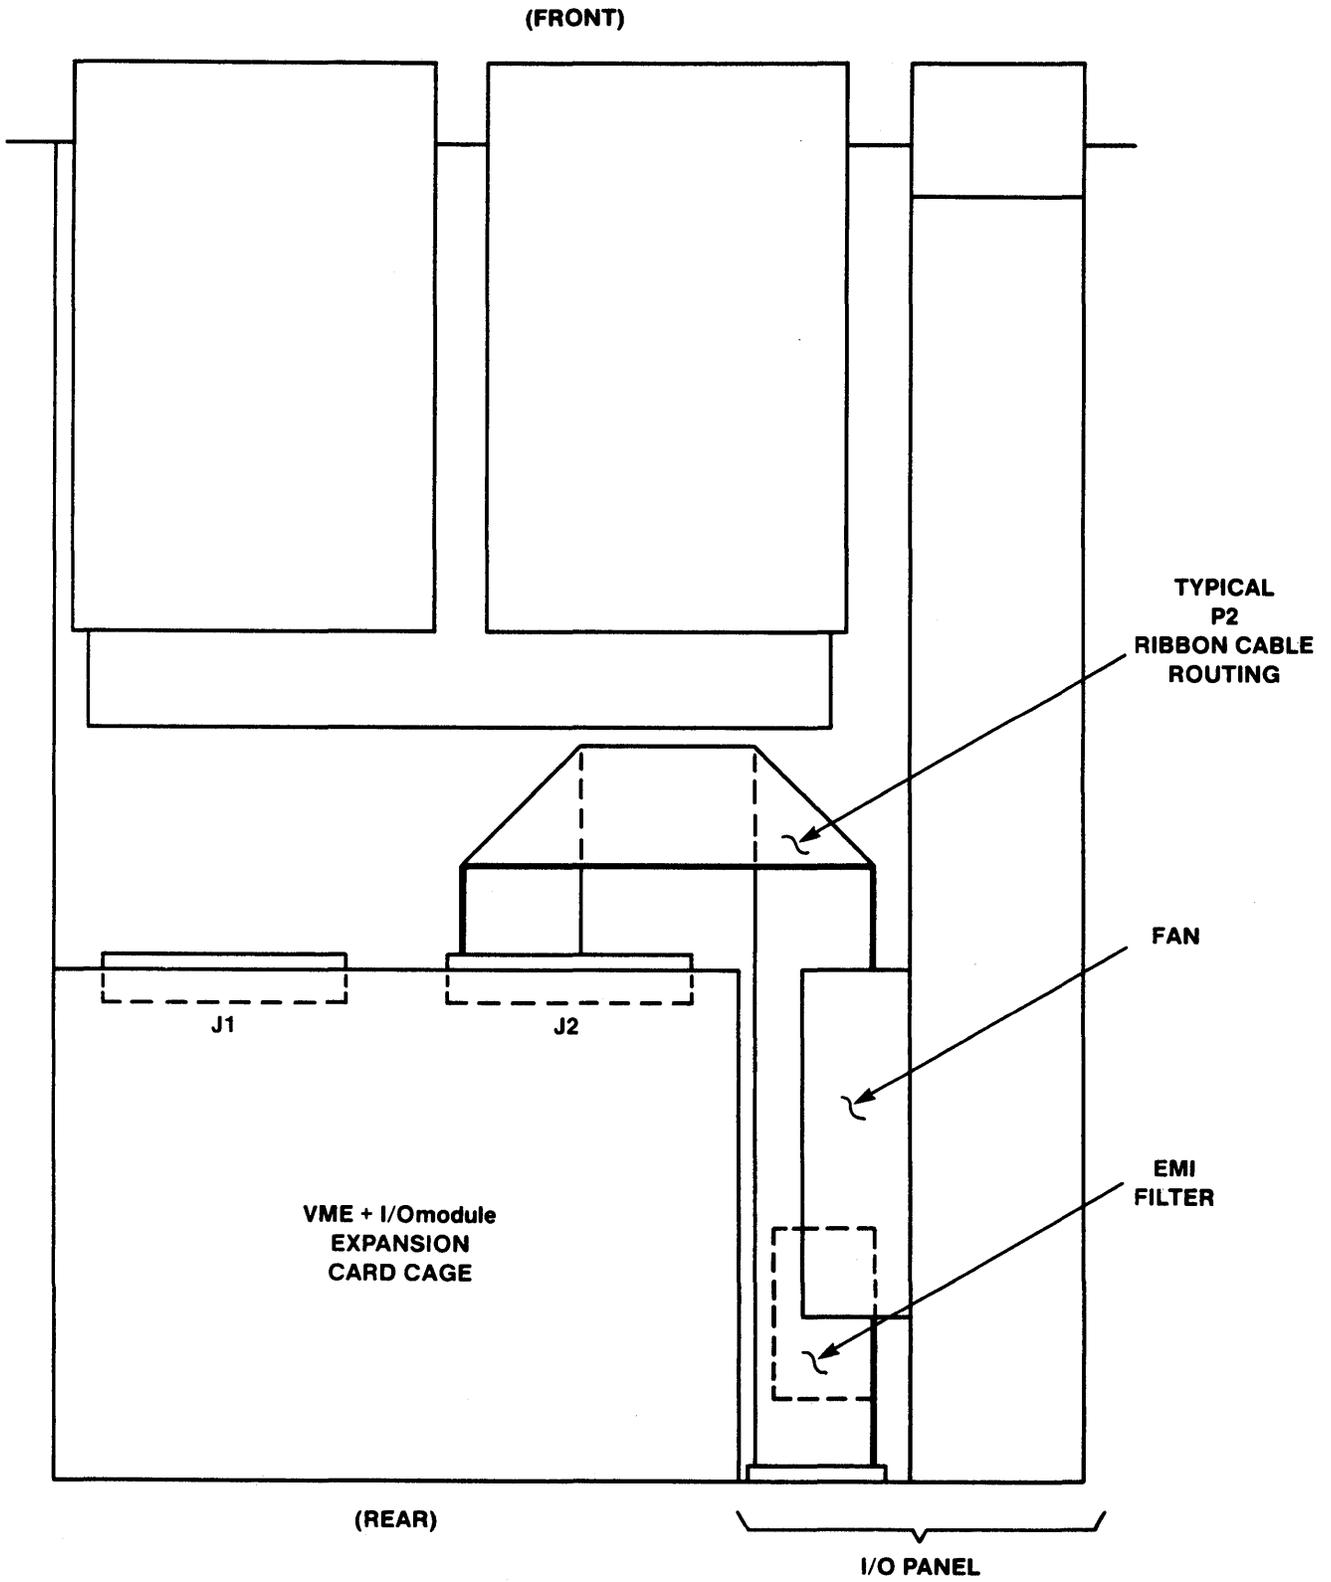

FIGURE 4-9. VME module I/O Cabling Method 2
- a. Route I/O cable assembly as shown in Figure 4-9.